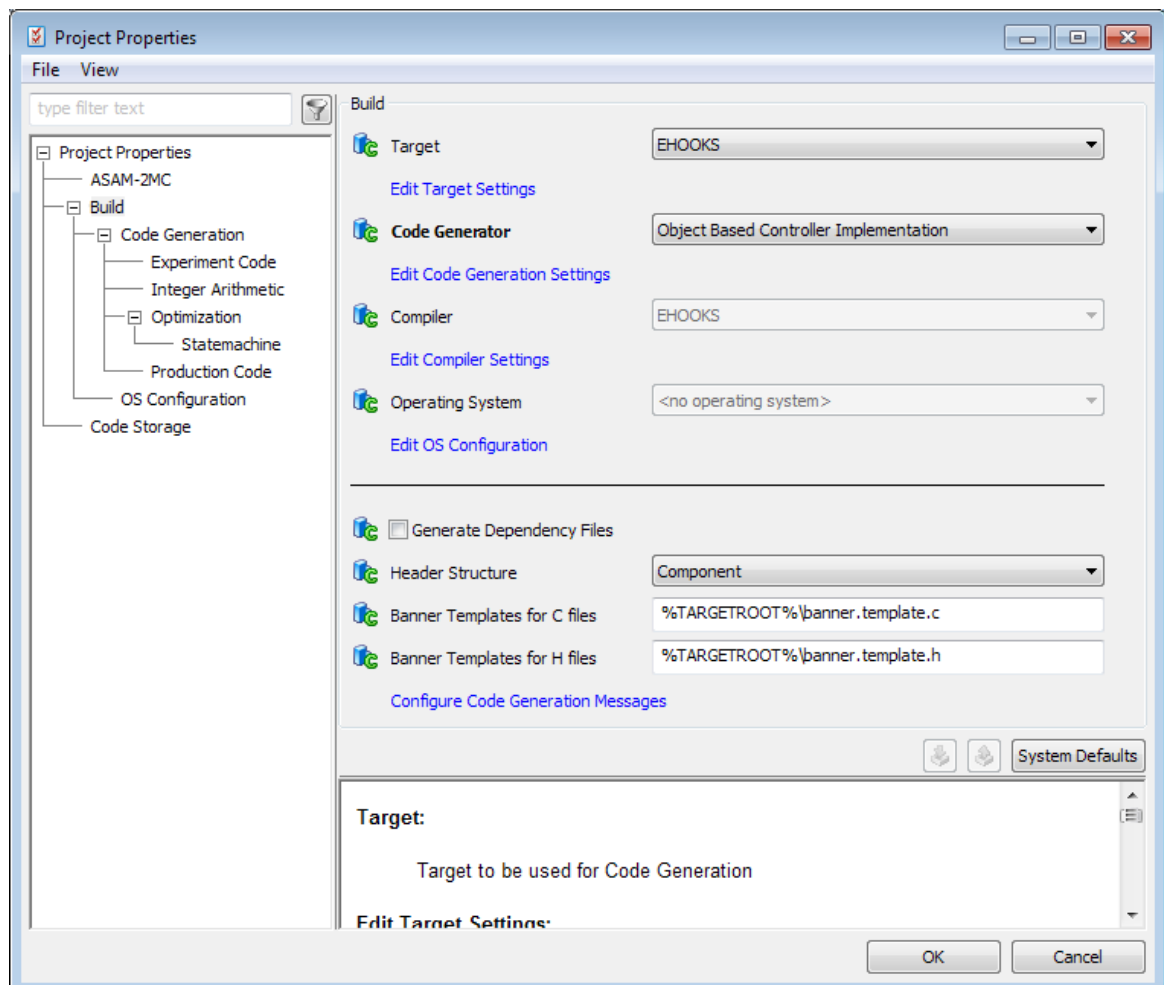

Figure 4.1: Configuring a project to use an EHOOKS target
- Go to the "Build" node and select EHOOKS as the target for the build as shown in Figure 4.1 on page 14.